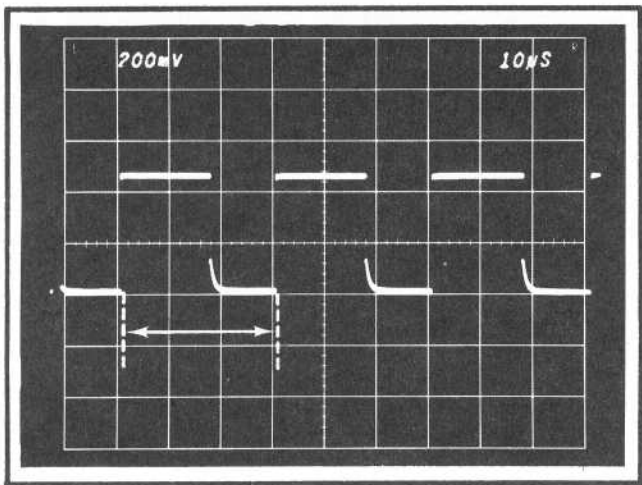

Fig. 5-13. Trigger holdoff measurement.
- Check the display for trigger holdoff times as given in Table 5-5. Holdoff is the time between the leading positive-going portions of adjacent trigger pulses. See Fig. 5-13. Reset the 7B50 Time/Div switch as required.